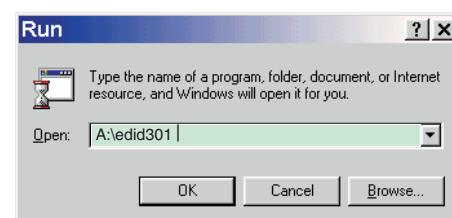

Fig. 5
4. At the submenu, type the letter of your computer's floppy disk drive followed by :EDID301 (for example, A:EDID301, as shown in Fig. 5).